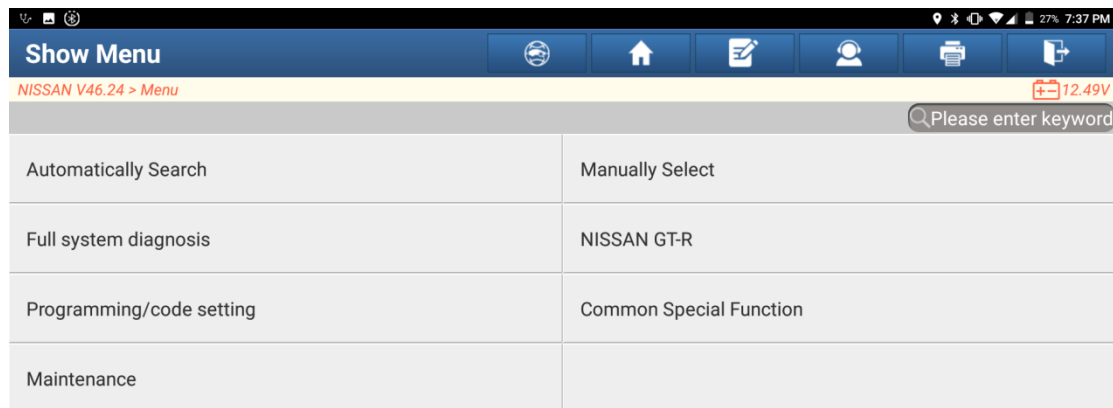

Figure 1
1. On an X-431 PAD 5, click [Local Diagnose], and then choose [NISSAN] to enter the Nissan model menu interface. See Figure 1.